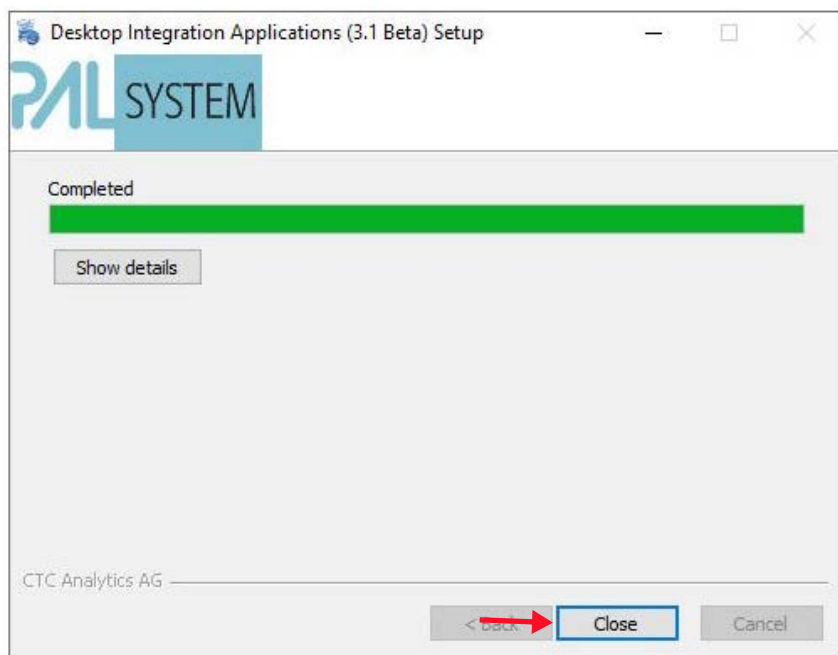

Figure 5-14. Installation is completed
9. When the installation is completed, click **Close**. See Figure 5-14.